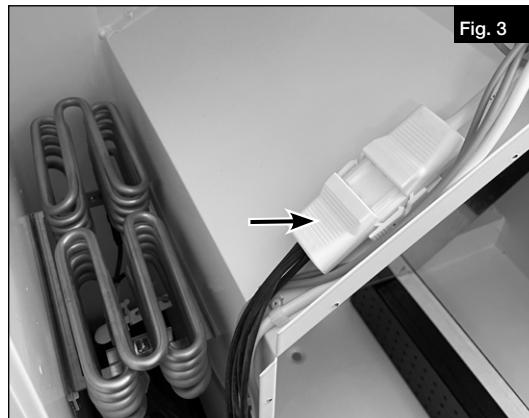

Fig. 3
4. Place the electrical post-heater on the mounting bracket and screw to the other side (see Fig. 3).
5. Pass the connection cable under the fan cable and then plug it in (see Fig. 3).